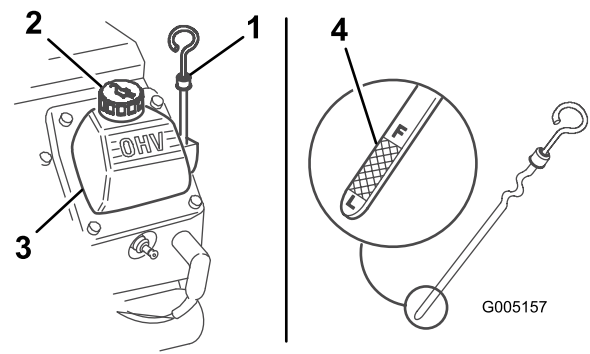

Figure 23
3. Clean the area around the oil dipstick (Figure 23).
4. Pull out the dipstick and wipe the metal end clean (Figure 23).
5. Slide the dipstick fully into the dipstick tube (Figure 23).
7. If the oil level is low, clean the area around the oil-fill cap and remove the cap (Figure 23).
12. Remove the fill cap (Figure 23) and slowly pour approximately 80% of the specified amount of oil in through the valve cover.